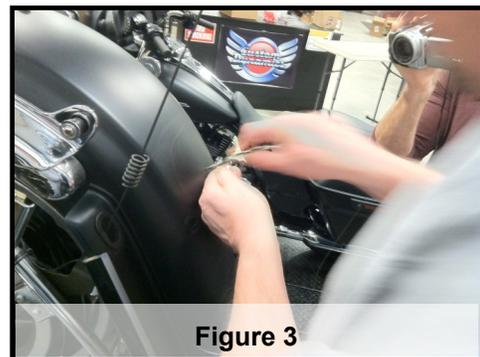

Figure 3
9. Next, use a center punch to mark the center hole for the wiring pass through. (See Figure 3)